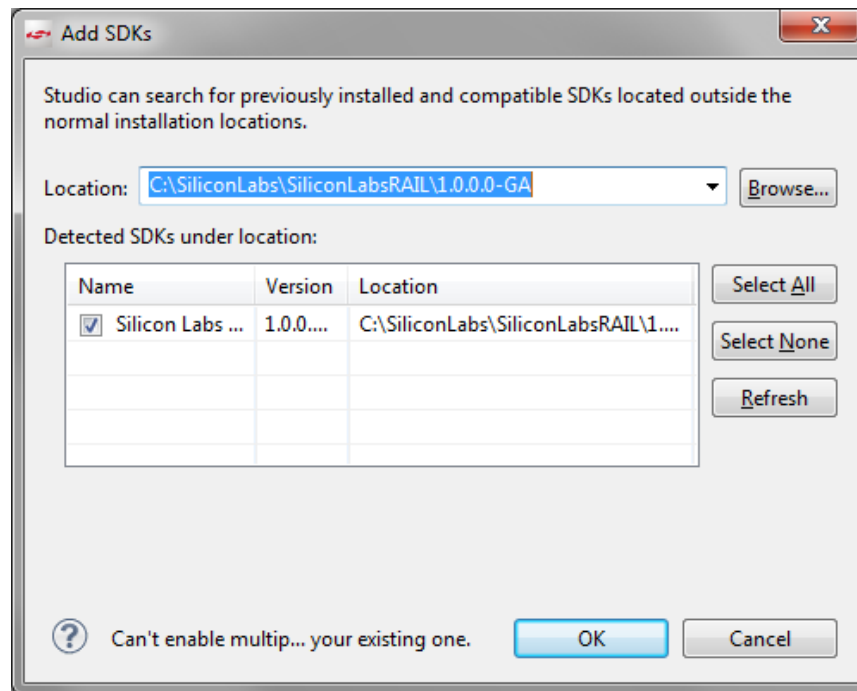

Figure 14. Add SDKs
5. Verify the software has detected the RAIL SDK (Figure 14) and click **[OK]**.